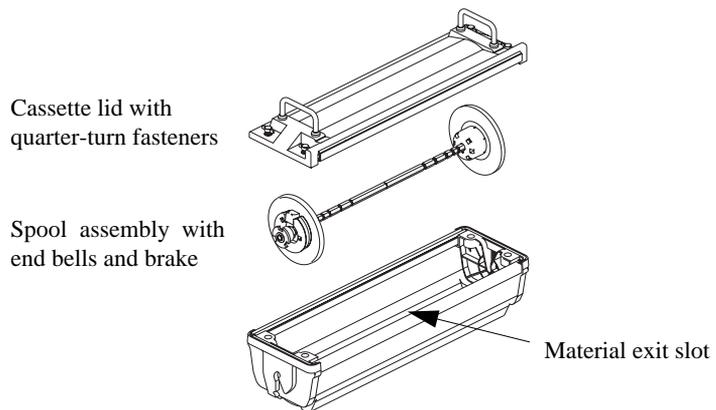

Fig.1
1. Place the supply cassette on a table with the material exit slot facing you. Loosen the four quarter-turn fasteners counterclockwise and lift off the cassette lid. (Ref:Fig.1)